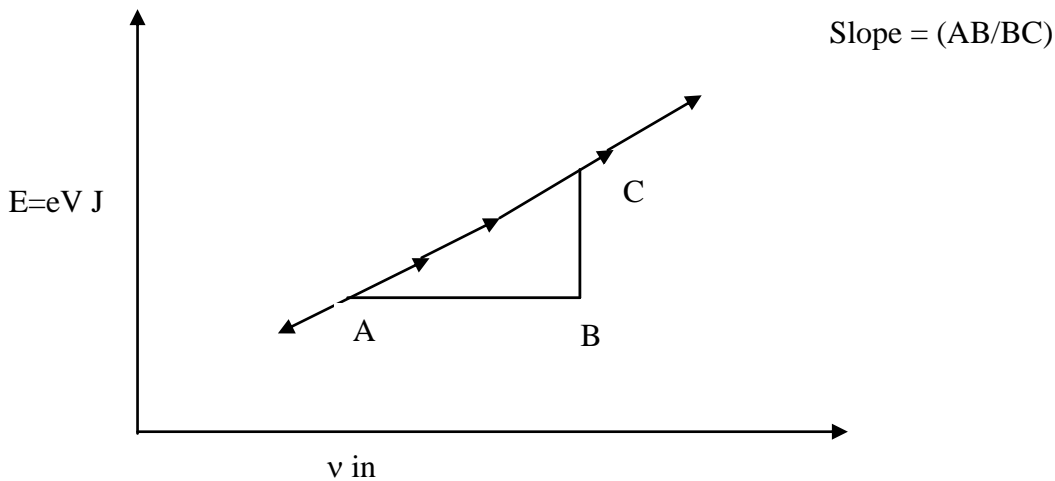

Figure-2, Variation of Energy with frequency
1. The circuit is rigged as shown in Figure-2. The input to the LED is an ac signal. The rectified output appears across the LED is a unidirectional pulsating. Hence, a peak reading meter is used to read voltage across the LED.